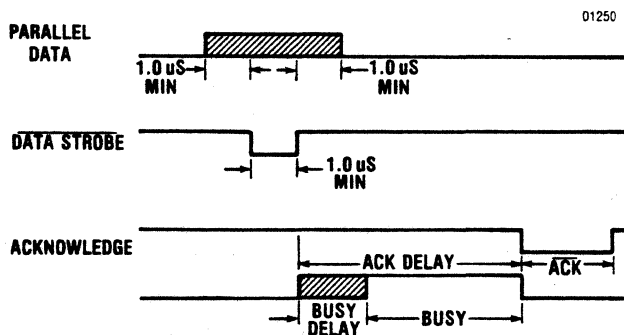

Figure 8-1 Parallel Interface Timing Diagram
**DATA STROBE**—Data strobe is a negative going pulse used to transfer the incoming parallel data into the printer logic. The pulse duration of the signal must be a minimum of 1.0 microsecond. The leading and trailing edges of data strobe and the input data must be shown in Figure 8-1.